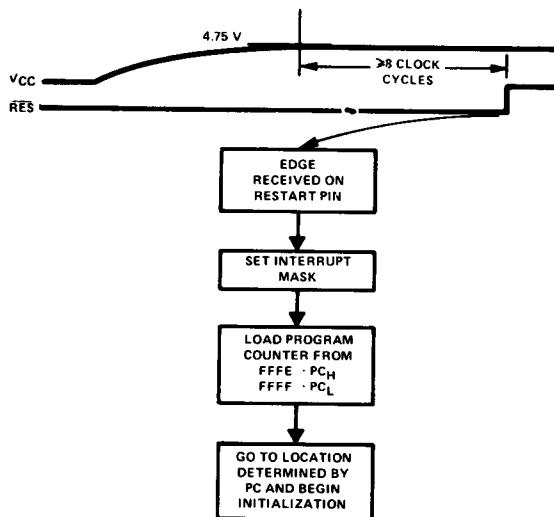

Fig. 9.7 Restart sequence
eight clock cycles, the RES line may be allowed to go high to signal the MPU to begin the restart sequence. The contents of the ROM location addressed by FFFE will be placed in the most significant byte of the program counter, and the contents of the ROM location addressed by FFFF will be placed in its least significant byte. The program counter now contains the address of the initializing routine. During the restart sequence (Fig. 9.7), the interrupt mask bit (I)